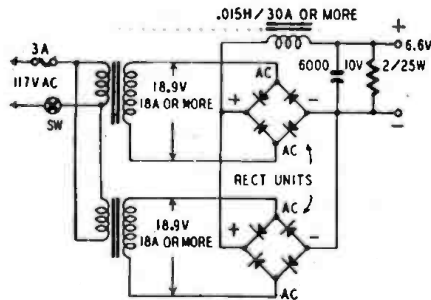
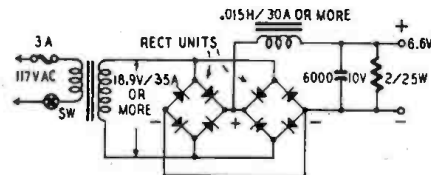

Fig. 1—Paralleled outputs supply 40 amperes.
Fig. 2—Rectifier has single input and output.
A. Since each of the rectifier units you have will deliver only 20 amperes, it is necessary that you connect them in parallel, it is recommended that they be operated from separate transformers and their outputs connected in parallel as shown in Fig. 1. With this circuit you can draw up to 40 amperes from the supply. If you do not care to use the two transformers, then use the circuit in Fig. 2 or 3.